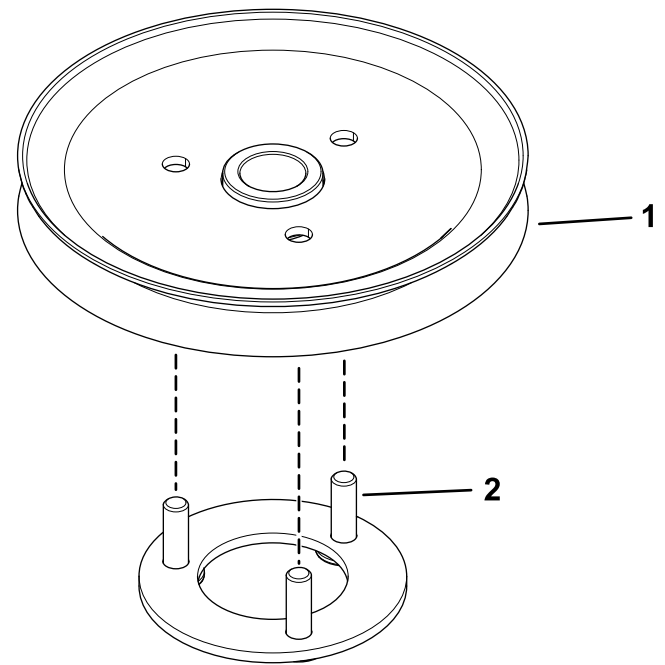

Figure 8
2. Insert the pulley-plate mount studs into the holes in the sheave (Figure 8).